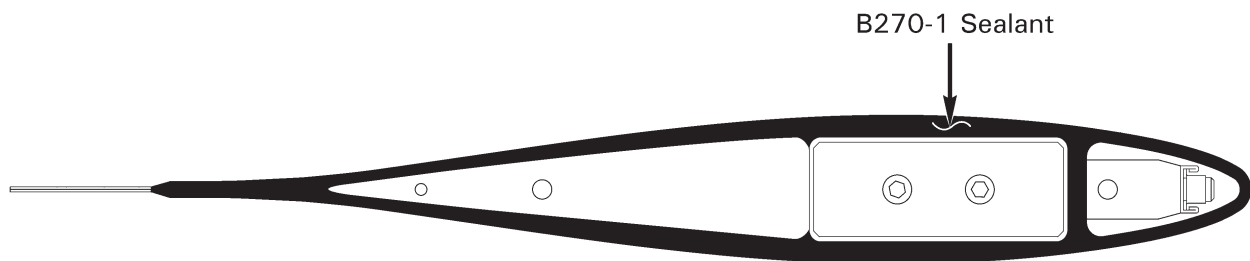

FIGURE 2
- Refer to Figure 2. Apply thin, even layer of B270-1 sealant (polysulfide, ref MM approved sealants) as shown. Allow to cure.